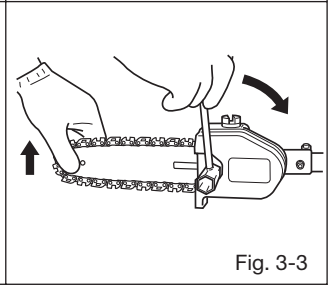

Fig. 3-3
Terän kulman säätäminen (Fig. 3-3, 4)
5. Raise the bar end, and tighten the chain (1) by turning the tension adjustment bolt (2) clockwise. To check proper tension, lightly lift up the center of chain and there should be about 0.5-1.0mm clearance between bar and edge of drive link (3). (Fig. 3-3, 4)
- PROPER TENSION IS EXTREMELY IMPORTANT! (Fig. 3-3, 4)
6. Raise the bar end and securely tighten the chain bar clamp nuts with the combi box spanner. (Fig. 3-3)